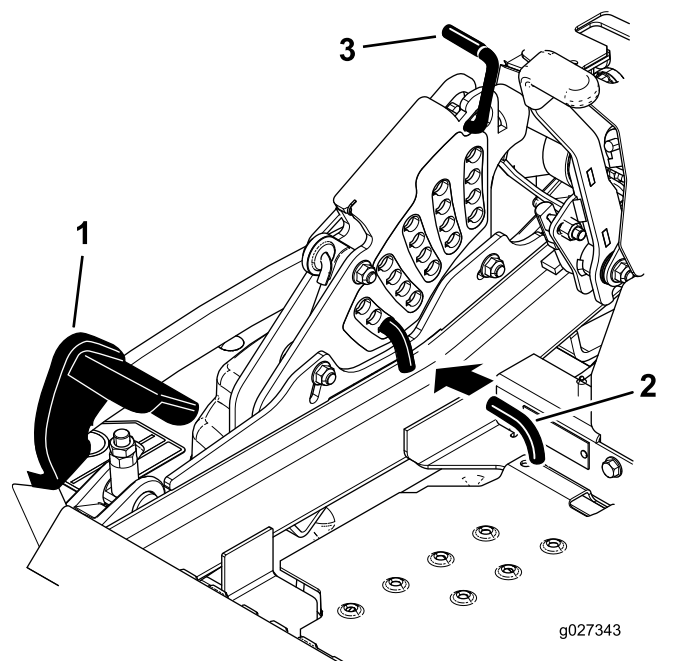

Figure 29
2. Push on the deck-lift pedal with your foot, and raise the mower deck to the transport position (also the 140 mm (5-1/2 inch) cutting height position) as shown in Figure 29.
3. To adjust, rotate the pin 90 degrees and remove the pin from the height-of-cut bracket (Figure 29).
4. Select a hole in the height-of-cut bracket corresponding to the height-of-cut desired, and insert the pin (Figure 29).